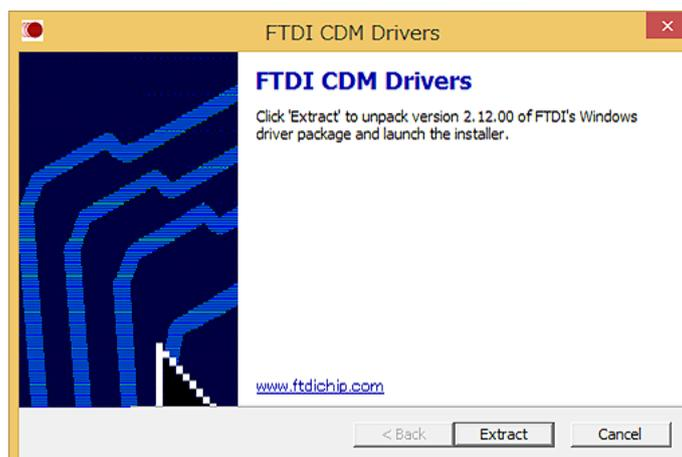

Fig. 8: FTDI CDM Drivers
- (1) Connect the KIT I/F cable to the USB port of the computer.
- (2) When "CDM 21228\_Setup.exe" is executed, setup program starts and Fig. 8. FTDI CDM Drivers screen is shown.